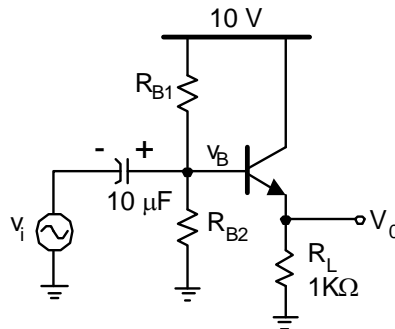

Fig. 4. Common-collector configuration
9. Find the magnitude of the small signal voltage gain for the circuit shown in Fig. 4 for a DC collector current is 1mA. Select the resistors lumped to the base such that the collector current is 1mA and  $R_{B1}||R_{B2} > 50$  k $\Omega$ . Check first the operating point of your design, and verify that the voltage gain is approximately given by  $g_m(R_L||1/g_m)$ . Compute the values for the input impedance seen at the base and output impedance.
10. Construct the circuit in Fig. 4 in Pspice and compare the simulated results (input impedance, output impedance and voltage gain) with hand calculations. Explain the differences if any. Also, obtain the frequency response of Fig. 4, and find the low frequency and high frequency poles.
8. Construct the circuit shown in Fig. 4; use the resistor values computed in the pre lab and be sure you verify these values using Spice simulations.